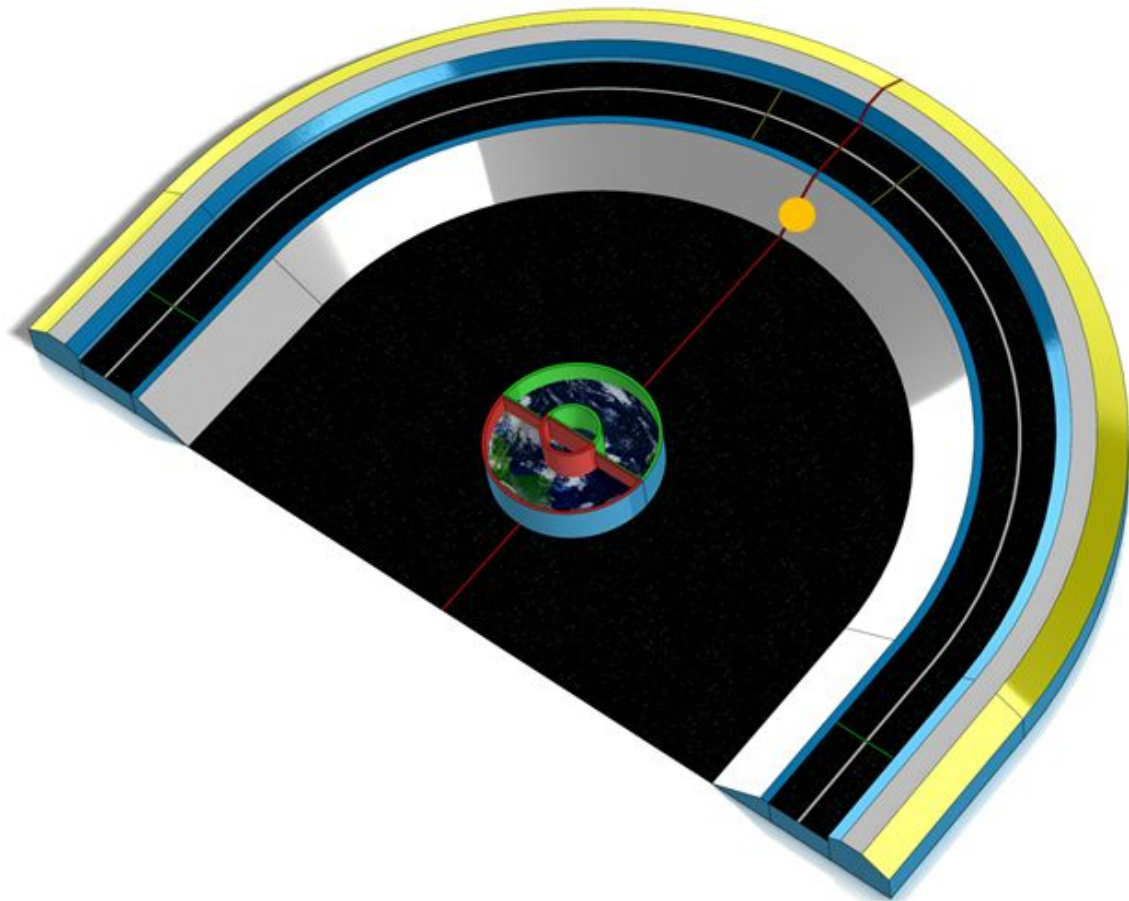

Figure. 5 Debris locating map
2. There will be a total of 81 debris out of which 40 of them are scattered in each of the two regions dedicated for the teams and one orange debris located at the boundary line between the regions. Out of the 40 debris located within each region, 12 of them are yellow debris, and 28 of them are white ones. The location of the debris are suggested by Figure 5. The Yellow colored area is where yellow debris located, the white areas are where the white debris located. The orange point will be where the orange debris located.